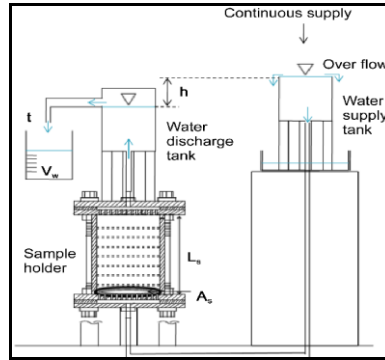

Figure 6.1. Grain Size and Permeability Tester
- Calculate the AFS grain fineness number using figure 6.1.